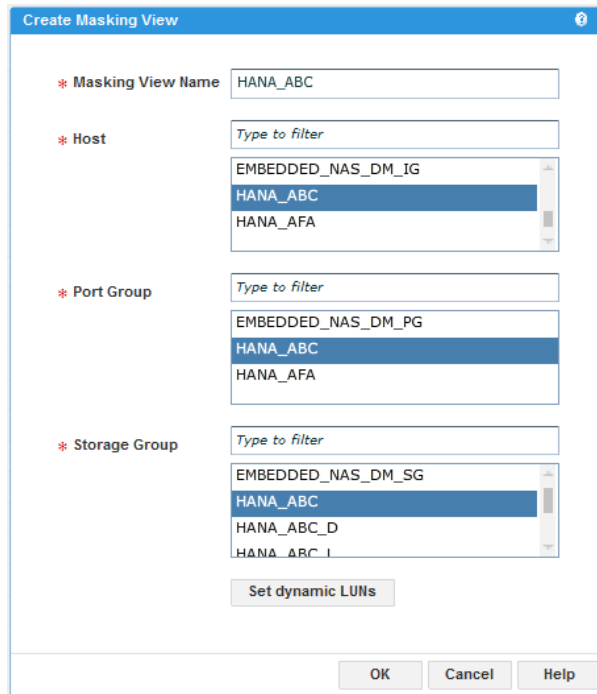

Figure 16. Creating a Masking View
2. Enter a masking view name (`HANA_ABC`) and select the host group, port group, and storage group you created in the previous steps, as shown in Figure 16.